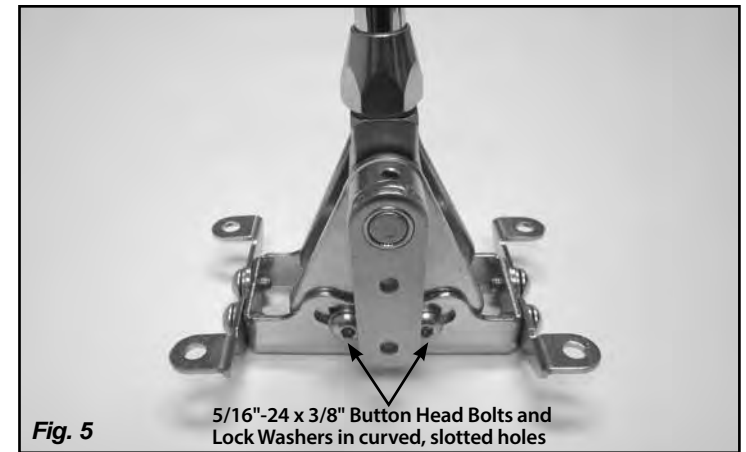

Fig. 5
Step 4: Make sure the two 5/16"-24 x 3/8" socket head bolts that are in the curved, slotted holes in the left side of the floor mount mounting bracket are tight. Place the shifter in the desired location. Make sure the shifter will not interfere with the dash when in Park, or with the seat when in low gear. The shifter assembly may be tilted forward or backward if needed by loosening the two socket head bolts that are in the curved, slotted holes in the left side of the floor mount mounting bracket. Retighten the socket head bolts in the curved, slotted holes once you have the shifter assembly at the angle you want. **Fig. 5**